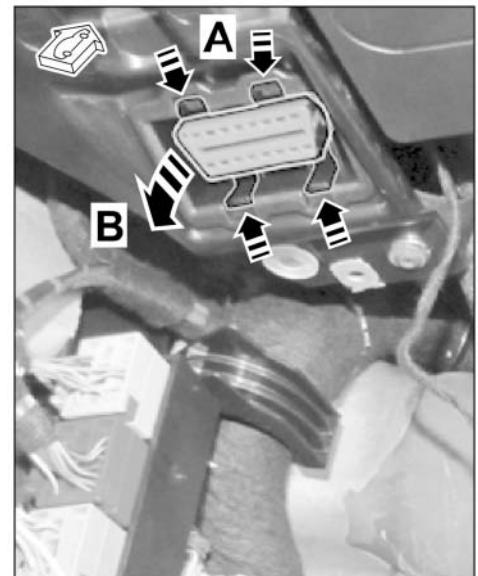

Figure 6
- 1.7 Remove diagnostic socket (under dashboard ⇒ *Figure 6*).
- 1.7.1 Press locking lugs (4 x) on diagnostic socket at the same time ( ⇒ *Figure 6-A-*).
- 1.7.2 Pull diagnostic socket forward out of the dashboard retaining frame and remove it ( ⇒ *Figure 6-B-*).